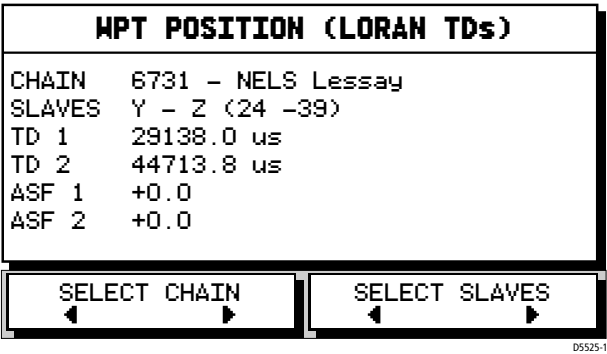

Figure 3-25: Select Chain/Slaves Screen
- i. the CHAIN soft key, which enables selection of both the Chain and it's Slaves, see *Figure 3-25*;